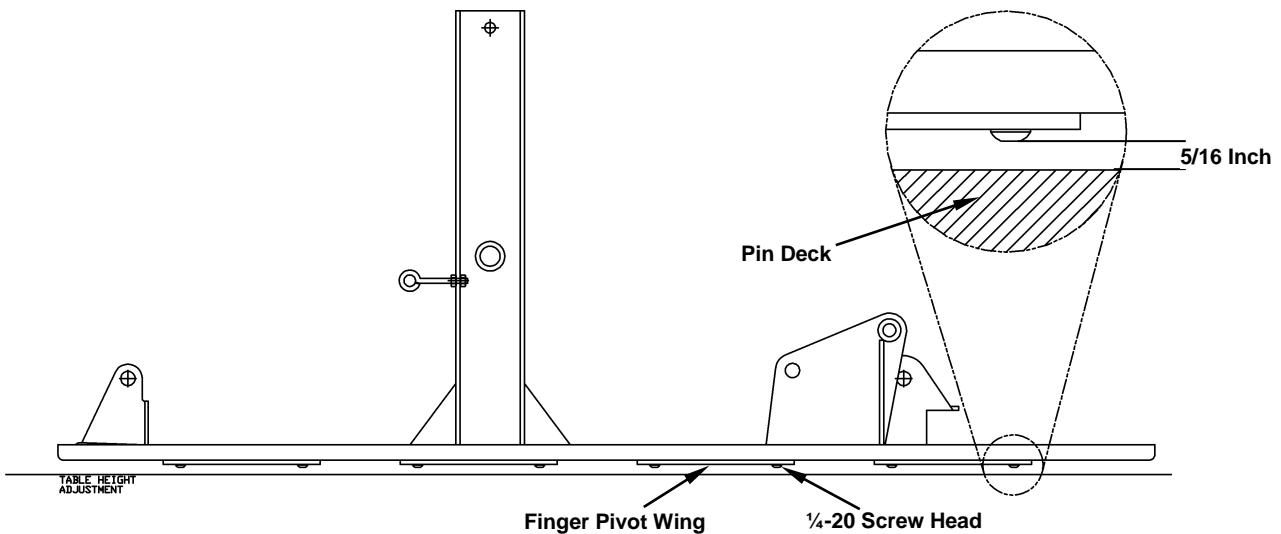

Figure 4.2-7
4. Adjust the Table clevis so that the Pinspotter Gauge Tool (Figure 4.3-6), laying flat on the pin deck, just fits between the pin deck and Button Head Screw in the center of each wing bracket at the 1, 8 and 10 pin openings resulting in a 5/16-inch gap between the screw head and the pin deck (see Figure 4.2-7).